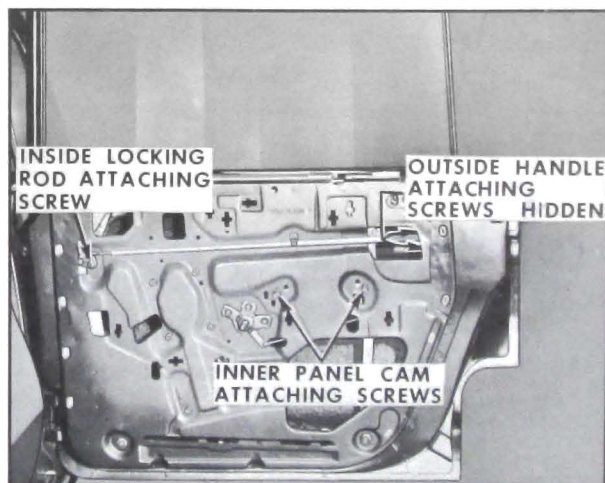

Figure 2-33—Rear Door Assembly - "39" Style
1. Raise door window. Remove door trim assembly and detach inner panel water deflector sufficiently to gain access to door outside handle attaching screws. (See Figure 2-33)
1. Raise door window. Remove door trim assembly and detach inner panel water deflector sufficiently to expose inner panel cam attaching screws. (See Figure 2-33)
1. To correct a condition where the window glass is cocked in glass run channels, loosen door inner panel cam attaching screws, adjust cam as required, and tighten screws. (See Figure 2-33)
5. Disengage rod from spring clip on door inner panel. Then remove inside locking rod assembly attaching screw, spring washer and washer cup and remove assembly from door. (See Figure 2-33)